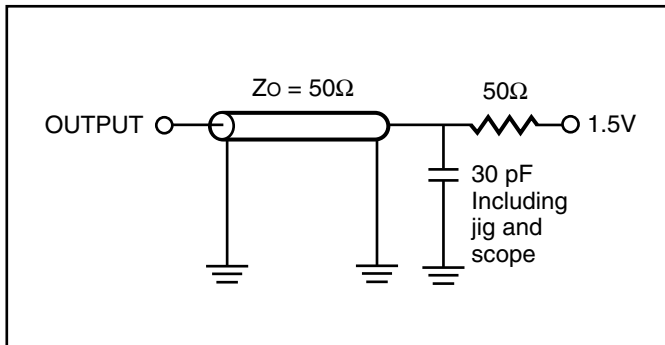

Figure 1.
| Output Load | See Figures 1 and 2 |
1. Test conditions and output loading conditions are specified in the AC Test Conditions and AC Test Loads (Figure 1).